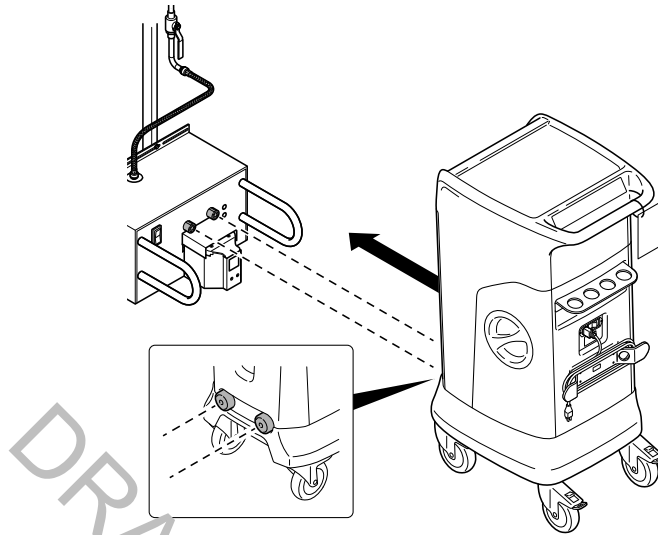

Figure 43 – Dock the Rover
1. Push the rover toward the docker and between the docker guides until the rover and docker engage automatically (Figure 43). Make sure the strike plates of the rover engage with the electromagnets of the docker. Do not lock the casters.